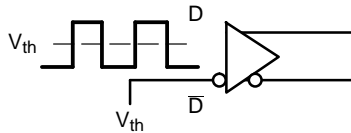

Figure 14. Differential Input Driven Single-Ended
**DIFFERENTIAL INPUT DRIVEN SINGLE-ENDED** (Figures 14 and 16)